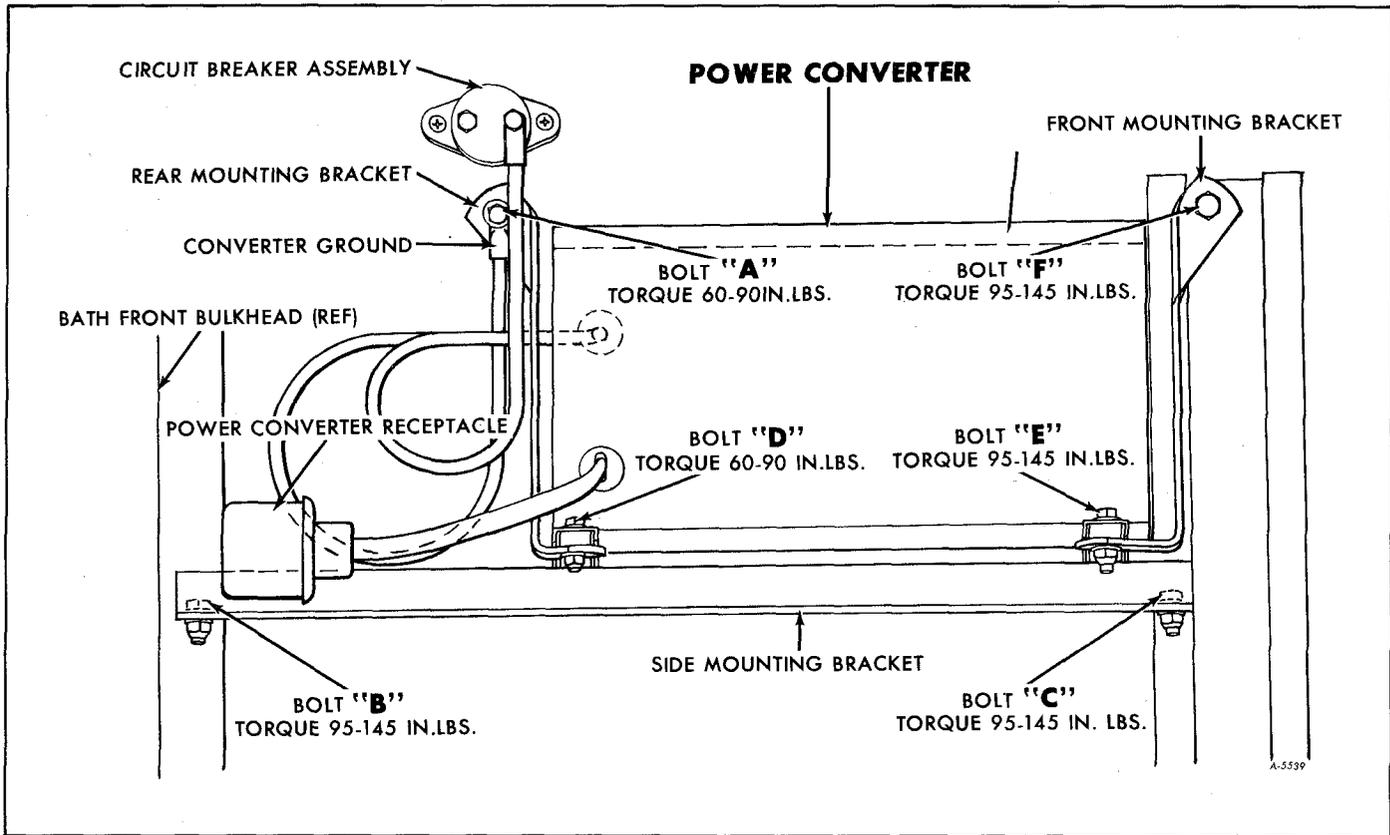

Figure 8—Converter Installation (Model ZEO6582)
5. Remove mounting bolt "A" at upper end of rear mounting bracket. (See figure 8.)
6. Remove two bracket bolts "B" and "C" (figure 8) securing side bracket to furnace mounting bracket. Next, remove front and rear bracket bolts "D" and "E" (figure 8), closest to vehicle interior. Lift off rear mounting bracket.
8. Remove side mounting bracket from converter. Secure to replacement converter assembly. Refer to figure 8 for torque values (bolts "B" and "C").
9. Converter installation is reverse of removal procedure. Tighten all attaching parts to torque indicated in figure 8.